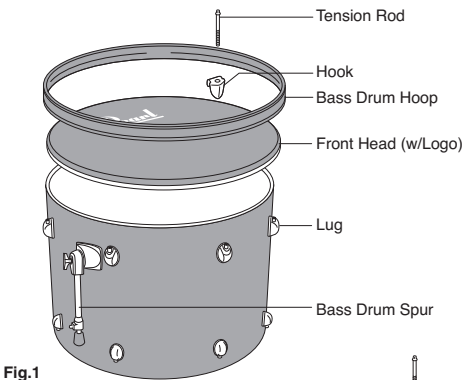

Fig.1
1. Place the shell with the bass drum spurs facing upward on a clean, solid surface. Put the Pearl logo head on the shell followed by the hoop, flat side down (Fig.1).
2. Insert a tension rod through the hook and place it on the hoop then finger tighten the tension rod into the lug nut of the lug. Attach the rest of the tension rods/hooks on this side of the drum (Fig.1).